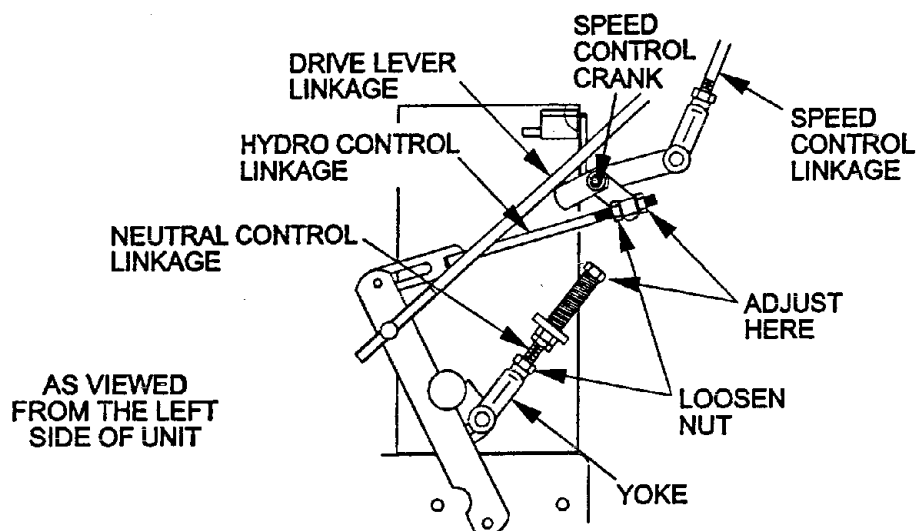
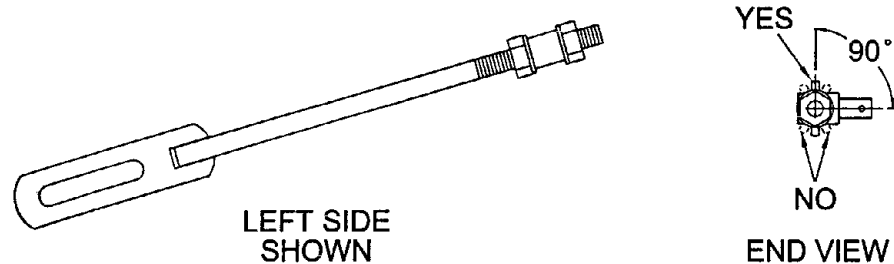

FIG. 13
FIG. 14
2. Move the speed control lever (located on the console) to the full forward position and check the orientation of the tabs on the ends of the speed control crank (fig. 13). These tabs should be pointing straight down at the 6 o'clock position or slightly forward. Adjust the threaded yoke at the bottom of the speed control linkage (fig. 13) until the tabs are positioned correctly.
4. Loosen the nut against the neutral control linkage yoke as shown in Figure 13.
2. Loosen the front nut on left hydro control linkage as shown in Figure 13. Turn the rear control linkage adjusting nut counter-clockwise until wheel rotates forward. Turn the rear nut of left control link clockwise $1/6$ of a turn at a time, stopping to move the speed control forward and back to neutral, until left wheel stops rotating forward. Turn the rear nut an additional $1/2$ turn and tighten the front nut making sure not to put a bind on the linkage. Make sure flat part of linkage is perpendicular to pin part of swivel. See Fig. 14.